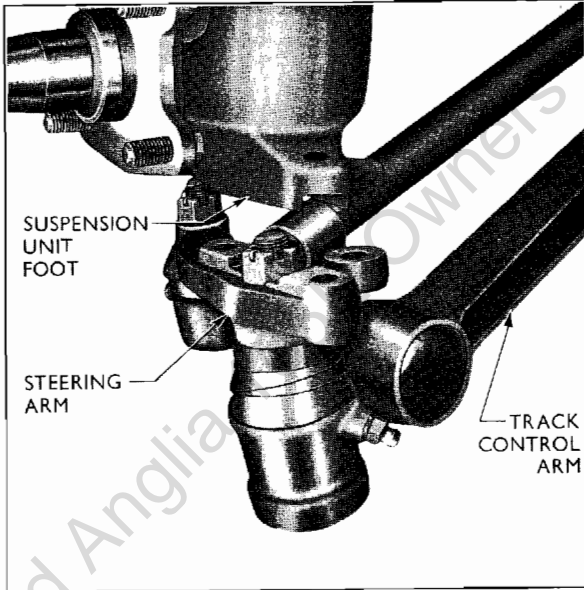

Fig. 7
4. Bend back the tabs on the tab washer and unscrew the three bolts securing the steering arm to the suspension unit foot, see Fig. 7.